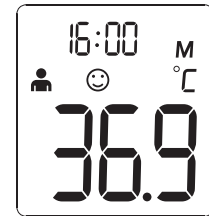

Figure 7
2. The thermometer will automatically memorize the last 30 temperature readings. Each memory also records the measurement date/time/mode icon. Each time the **⏻** *BUTTON* is pressed, the screen displays past readings that correspond with a number 1-30. The number 1 reflects the most recent reading, while the number 30 reveals the oldest reading stored in memory. (See Figure 7)